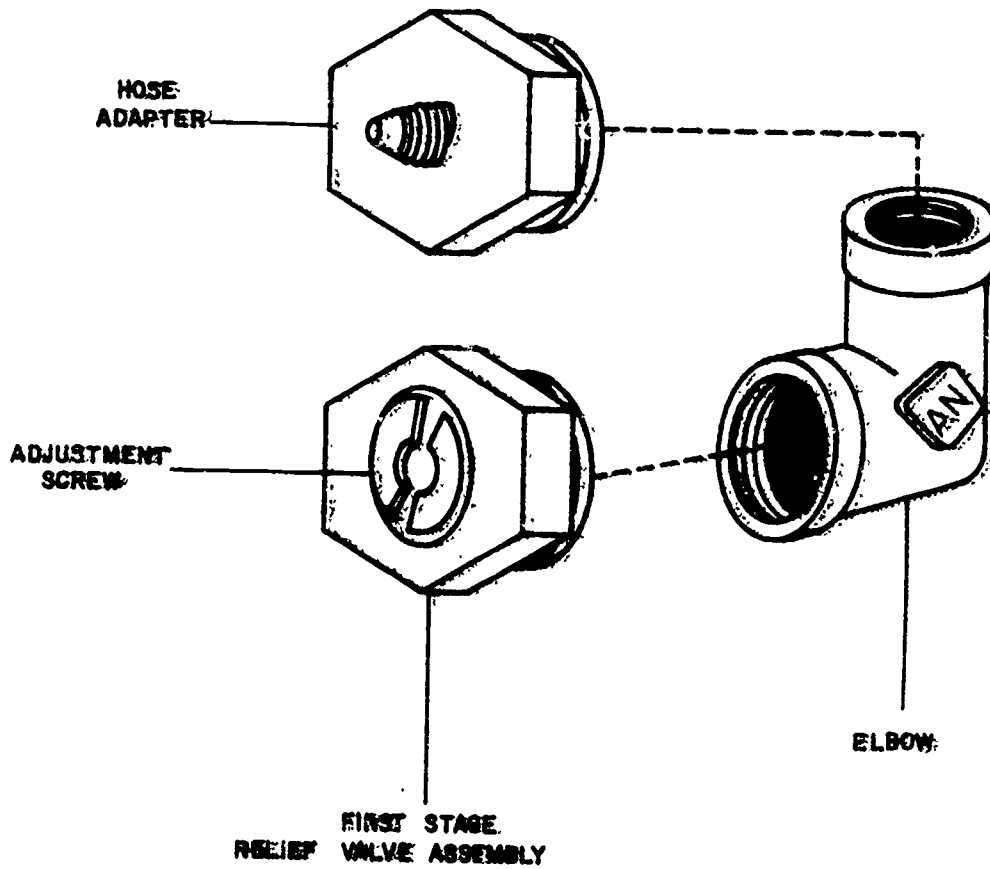

Figure 2. First Stage Relief Valve and Test Adapter.
4. Remove the test adapter from the ground laboratory test kit. The test adapter consists of an elbow and hose adapter. Refer to figure 2 of this workbook. Install the hose adapter and first stage relief valve in the test adapter elbow.
Note: Refer to figure 2 of this workbook. If adjustment is needed, locate the adjustment screw and adjust as needed.